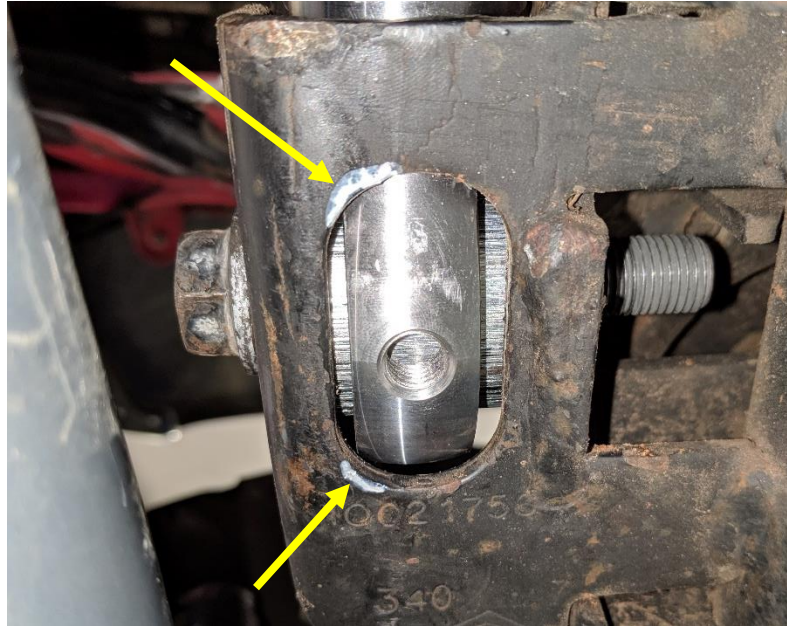

Figure 9. Trimming the inside of the bracket.
1. Trim the inside of the bracket. Use a round file to sharpen the radius in the corners shown in **Figure 9**.